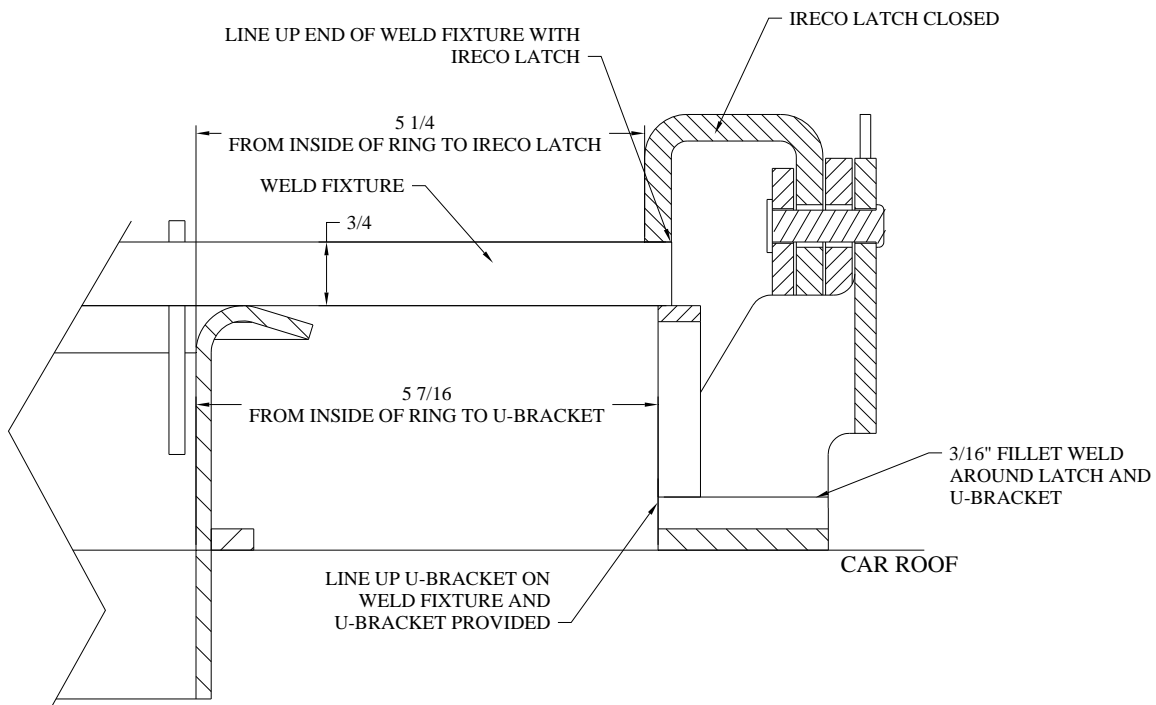

Figure 1
3. The U-bracket should be placed as shown on Fig 1, and be centered with the centerline of the car. Use the weld fixture to center the U-bracket. Seal weld around the whole U-bracket to the top of the car.
5. With the Ireco latch in the closed position, place the latch as shown in Fig 1.